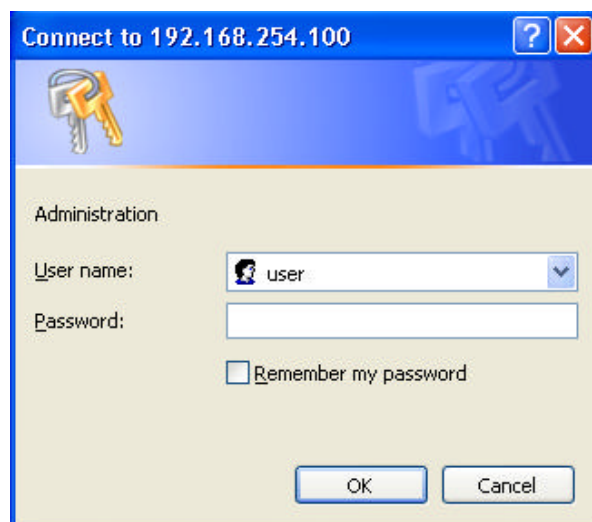

Figure 17. TC3820 Login with New Settings
2. Then you will see a window asking you to refresh your browser or enter the new IP to continue. Please refresh your web browser and then login with the new user name or password when the authentication window (as in Figure 17) pops up to continue the software configuration.